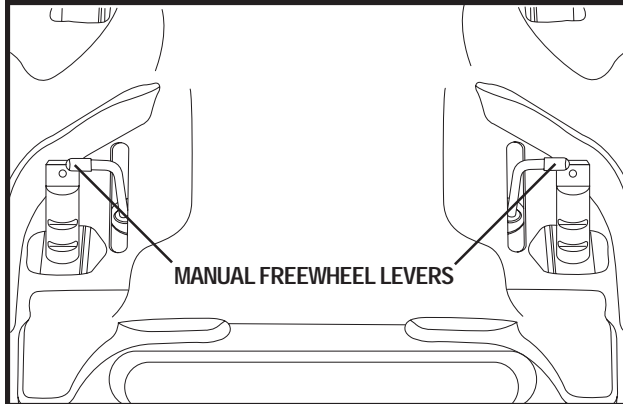

Figure 8. Drive Disengaged (Dual Levers)
1. Turn the manual freewheel levers outward to disengage the drive motors. See figure 8.